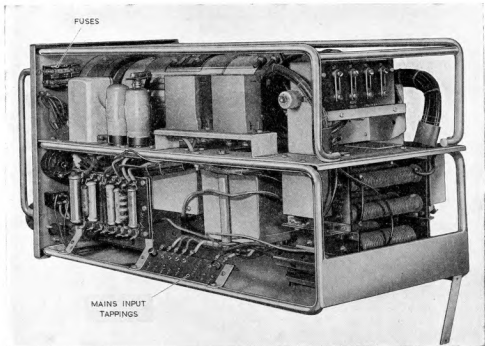

Fig. 5. Monitor Type 33 : side view
15. Before using the instrument check that it is set for 230 volts working by removing the unit from its case and examining the mains input tagboard which is located on the right side (fig. 5). One of the black screws should be placed in the +220 volts socket and the other in the +10 volts socket for 230 volts working.